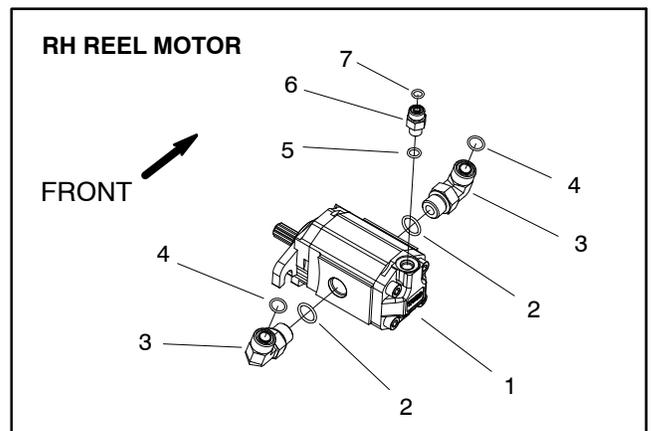

Figure 54
6. Remove hydraulic fittings and O-rings from the reel motor (Figs. 54, 55 and 56). Put caps or plugs in motor openings to prevent contamination.
2. If fittings were removed from reel motor, lubricate and place new O-rings onto fittings. Install fittings into motor ports using marks made during the removal process to properly orientate fittings (Figs. 54, 55 and 56). Tighten fittings (see Hydraulic Fitting Installation in the General Information section of this chapter).